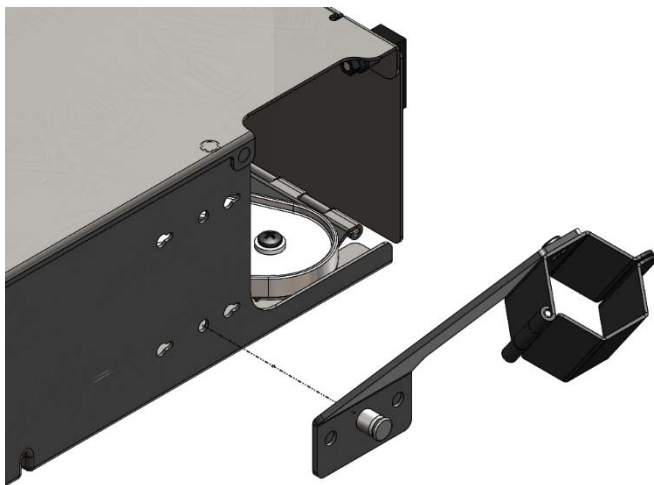

Figure 2
- 6.2. Depending on fiber used, select and insert the appropriate grommet into the mount, route fiber into mount, and tighten mount with thumbscrew. See figures 2, 2a, and 2b.